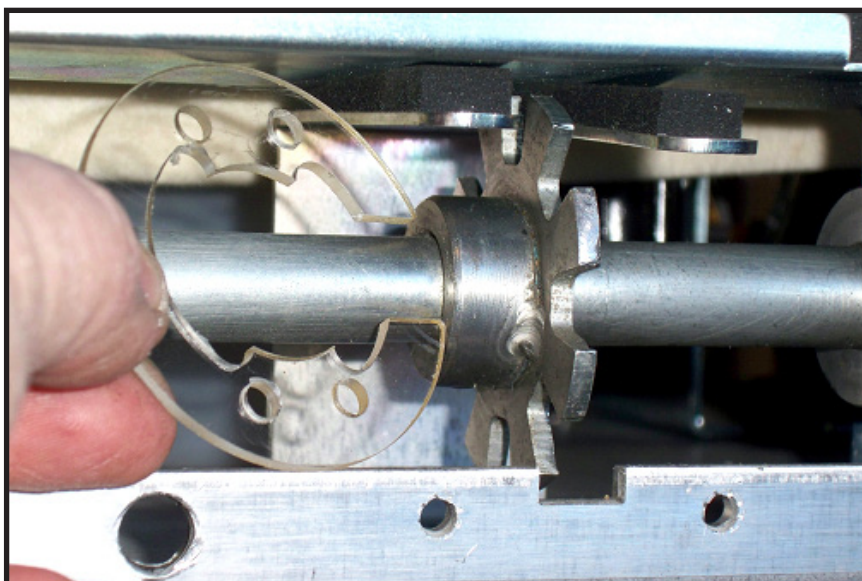

Figure 1
2. Place one of the plastic shields on either side of the distance encoder sprocket. Note that the slot in the shield allows easy installation over the shaft. Refer to *Figure 1*.